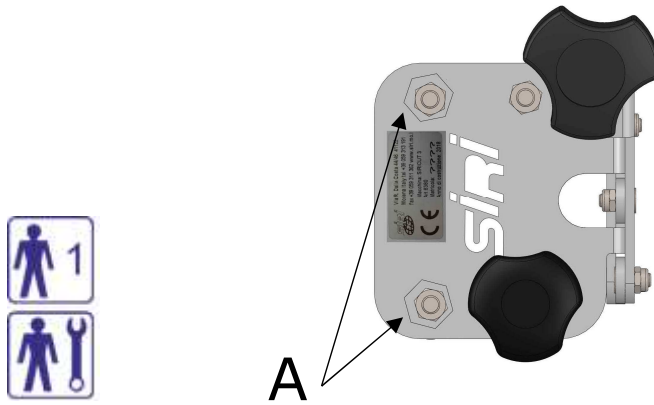

Fig. 6.4.1 Adjusting screw between guide and Siricut.
17. If this is the first time of use, check that the pulleys are adhering well to the guide otherwise, adjust the eccentric screw with a 19mm spanner and fix it so the carriage can slide smoothly and easily but with no sideways swing (see fig. 6.4.1).
If this is the first time of use, check that the pulleys are adhering well to the guide otherwise, adjust the eccentric screw with a 19mm spanner and fix it so the carriage can slide smoothly and easily but with no sideways swing (see fig. 6.4.1).